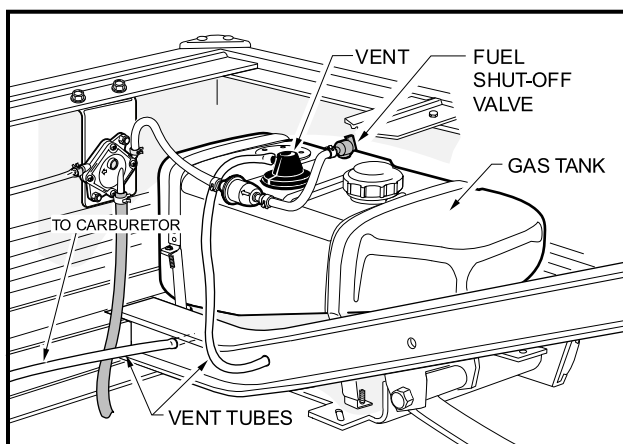

Figure 20 Fuel Tank
- IF THE VEHICLE HAS AN ALL-WEATHER ENCLOSURE INSTALLED, THE GAS TANK MUST BE PROPERLY VENTED AS SHOWN (FIGURE 20, PAGE 30).